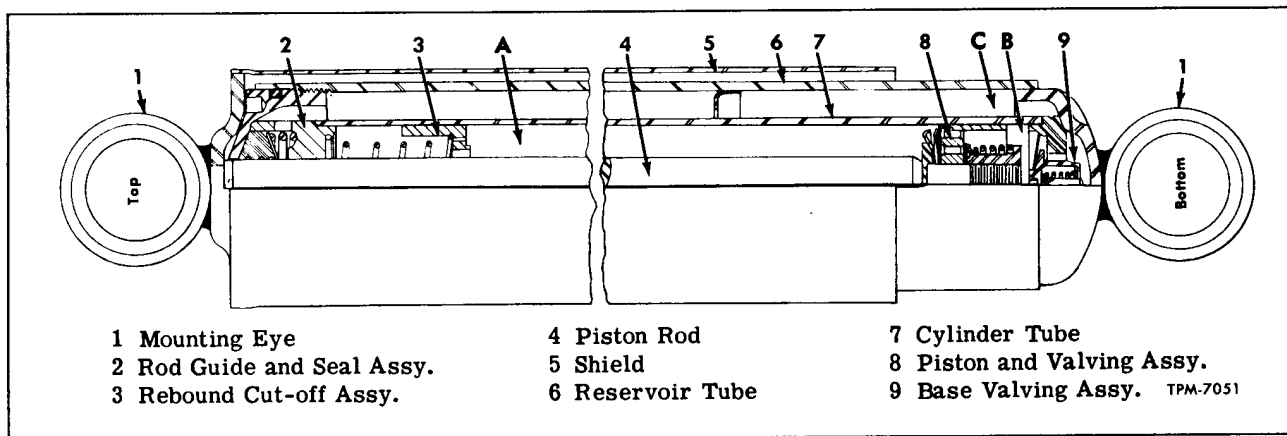

Figure 38—Sectional View of Shock Absorber
Shock absorbers used at front and at rear axles are double-acting, telescoping type. The principal components of the shock absorber, illustrated in figure 38 are: Piston and valving assembly (8), piston rod (4), rod guide and seal assembly (2), cylinder tube (7), base valving assembly (9), reservoir tube (6), shield (5), and mounting eyes (1). The cylinder tube (7) is completely filled with special hydraulic fluid, with an additional amount in the reservoir tube.
Starting with the shock absorber in closed position as illustrated in figure 38, the control of the opening or "rebound" stroke is as follows: As the piston assembly (8) travels upward, the fluid is compressed in the top portion (A) of the cylinder tube (7) and is forced through orifices in the piston and the rebound control valving located in the bottom of the piston. To replace fluid displaced by the piston rod (4) when in closed position, fluid is drawn from the reservoir section (C) in the reservoir tube (6) through the intake valve section of the base valve (9) into the lower portion (B) of the cylinder tube (7).